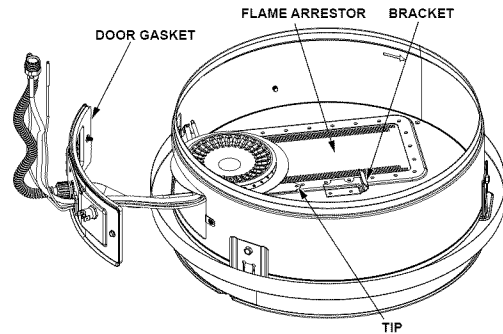

FIGURE 40.
3. Insert the manifold/burner assembly into the burner compartment, making sure that the tip of the manifold tube engages in the slot of the bracket inside the combustion chamber (Figures 40 & 41).